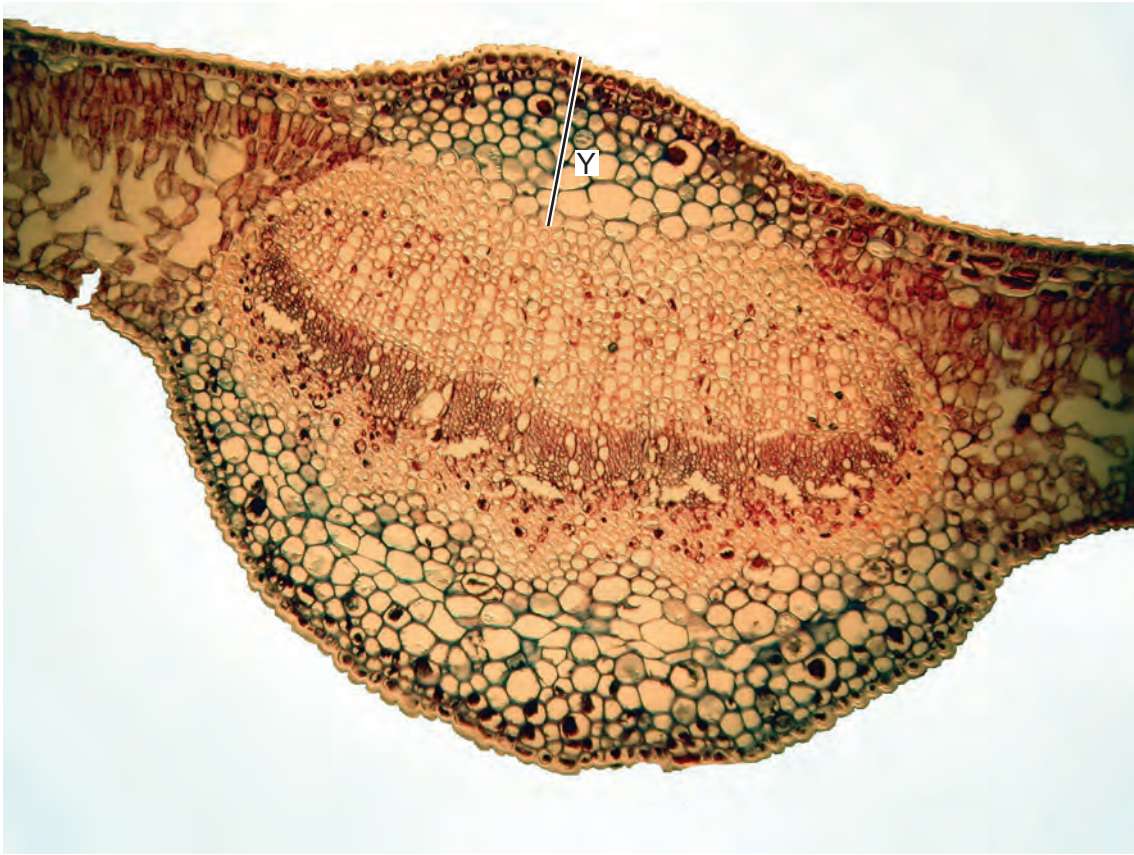

Fig. 2.3
Fig. 2.3 is a photomicrograph of a transverse section through a leaf of a different species.
Use this measurement to calculate the magnification of Fig. 2.3.
- (d) Prepare the space below so that it is suitable for you to record the observable differences between the specimens on **J1** and in Fig. 2.3.